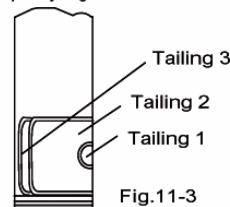

Fig.11-3
- When routing the pipe (wiring) from the left or right side, cut off the tailings of the left pipe on base of main unit. (as shown in Fig.11-3)